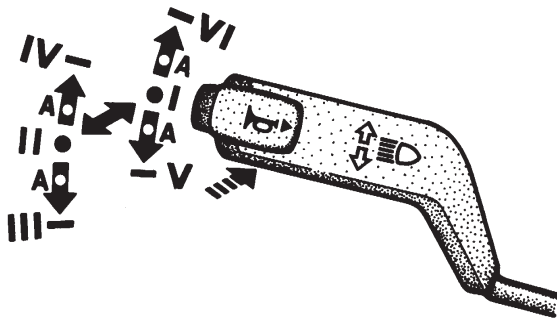

Fig. 5.2. Turn indicator and dimmer switch lever (with horn)
5 — turn indicators, dimmer and horn¹⁾ switch lever. The switch lever has six fixed positions (from I to VI) and four non-fixed positions "A" (fig. 5.2 and 5.3).
Pulling the lever repeatedly from position I along the steering column (non-fixed position) switches on headlamp upper beam for a short time. Depressing the switch lever button (in any position of the lever) turns on the horn¹⁾ (non-fixed position) — see fig. 5.2.
1) On some of the vehicles the horn is turned on by turn indicators and dimmer switch lever (see Fig. 5.2).